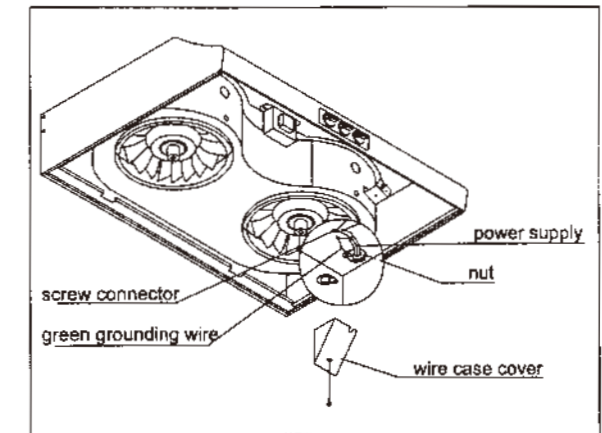

Fig. 16 Wire the power supply cord
11. Connect the leading wires and power supply cord (refer to the circuit diagram on page 11/12 in this manual.), put back cover and screw on. (Fig. 16)